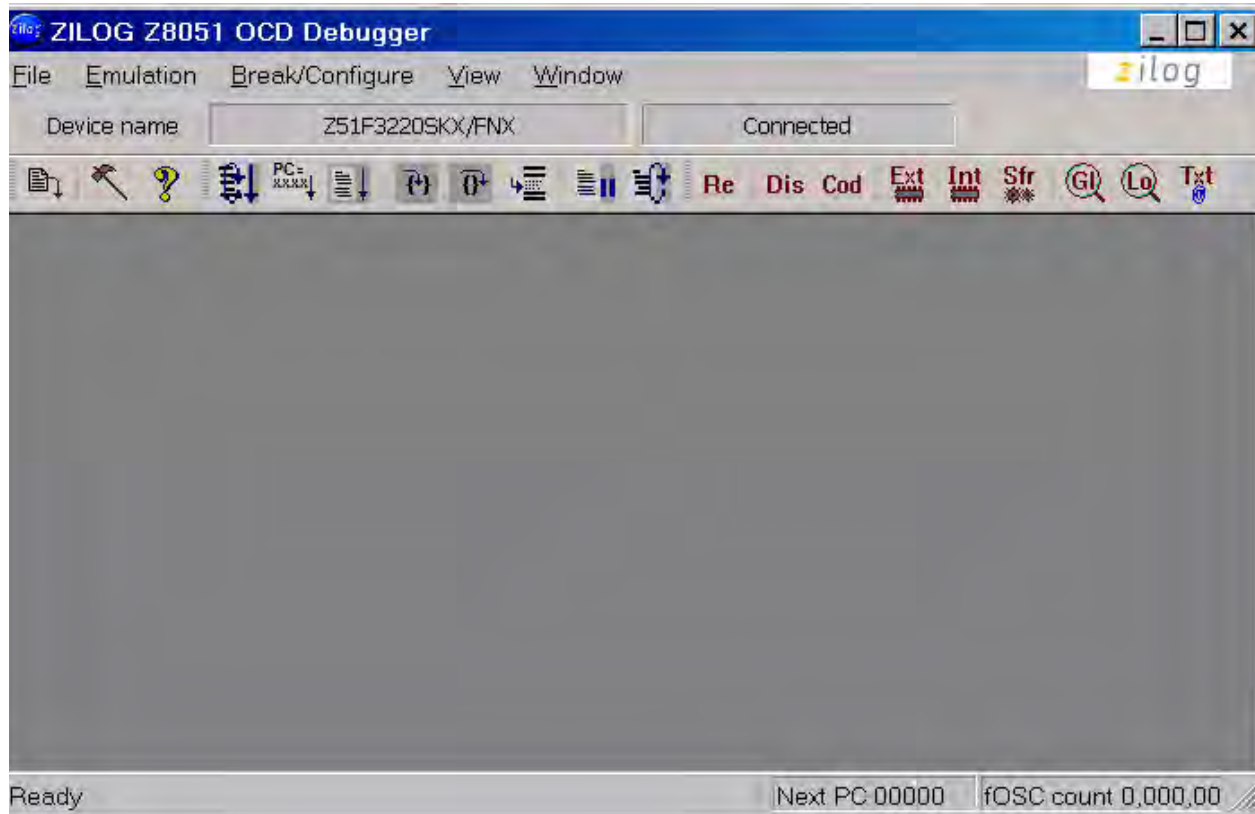

Figure 16. Initial OCD Screen
4. Run the Z8051 OCD software. From the **Start** menu, navigate to **All Programs** → **Zilog Z8051 Software and Documentation <version\_number>** → **Zilog Z8051 OCD <version\_number>**. Once launched, the program will display *Connected*, as shown in Figure 16.